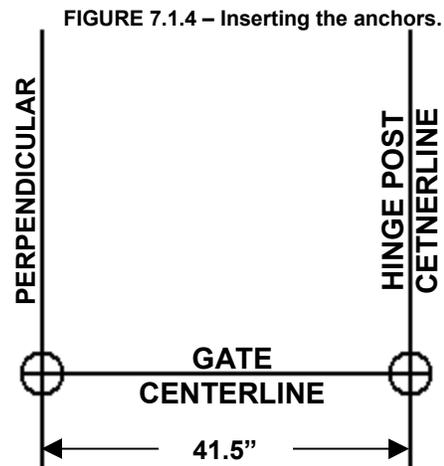

FIGURE 7.1.4 – Inserting the anchors.
7. Insert one anchor into each drilled hole. Ensure that the anchors are flush with the concrete floor. (See Figure 7.1.4).